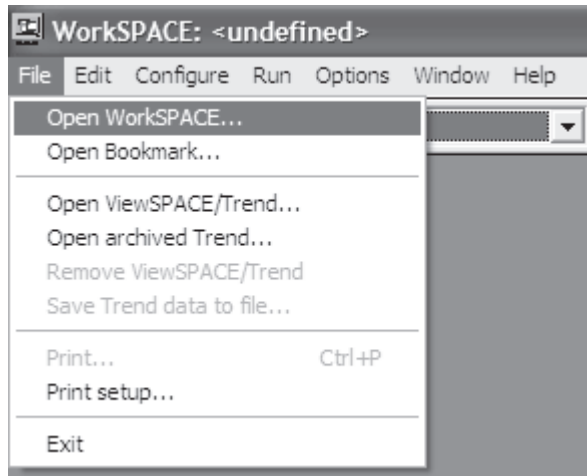

Fig. 26 — Open Workspace
35. From chiller display page, select the “File” tab, then select “Open WorkSPACE” (Fig. 26).